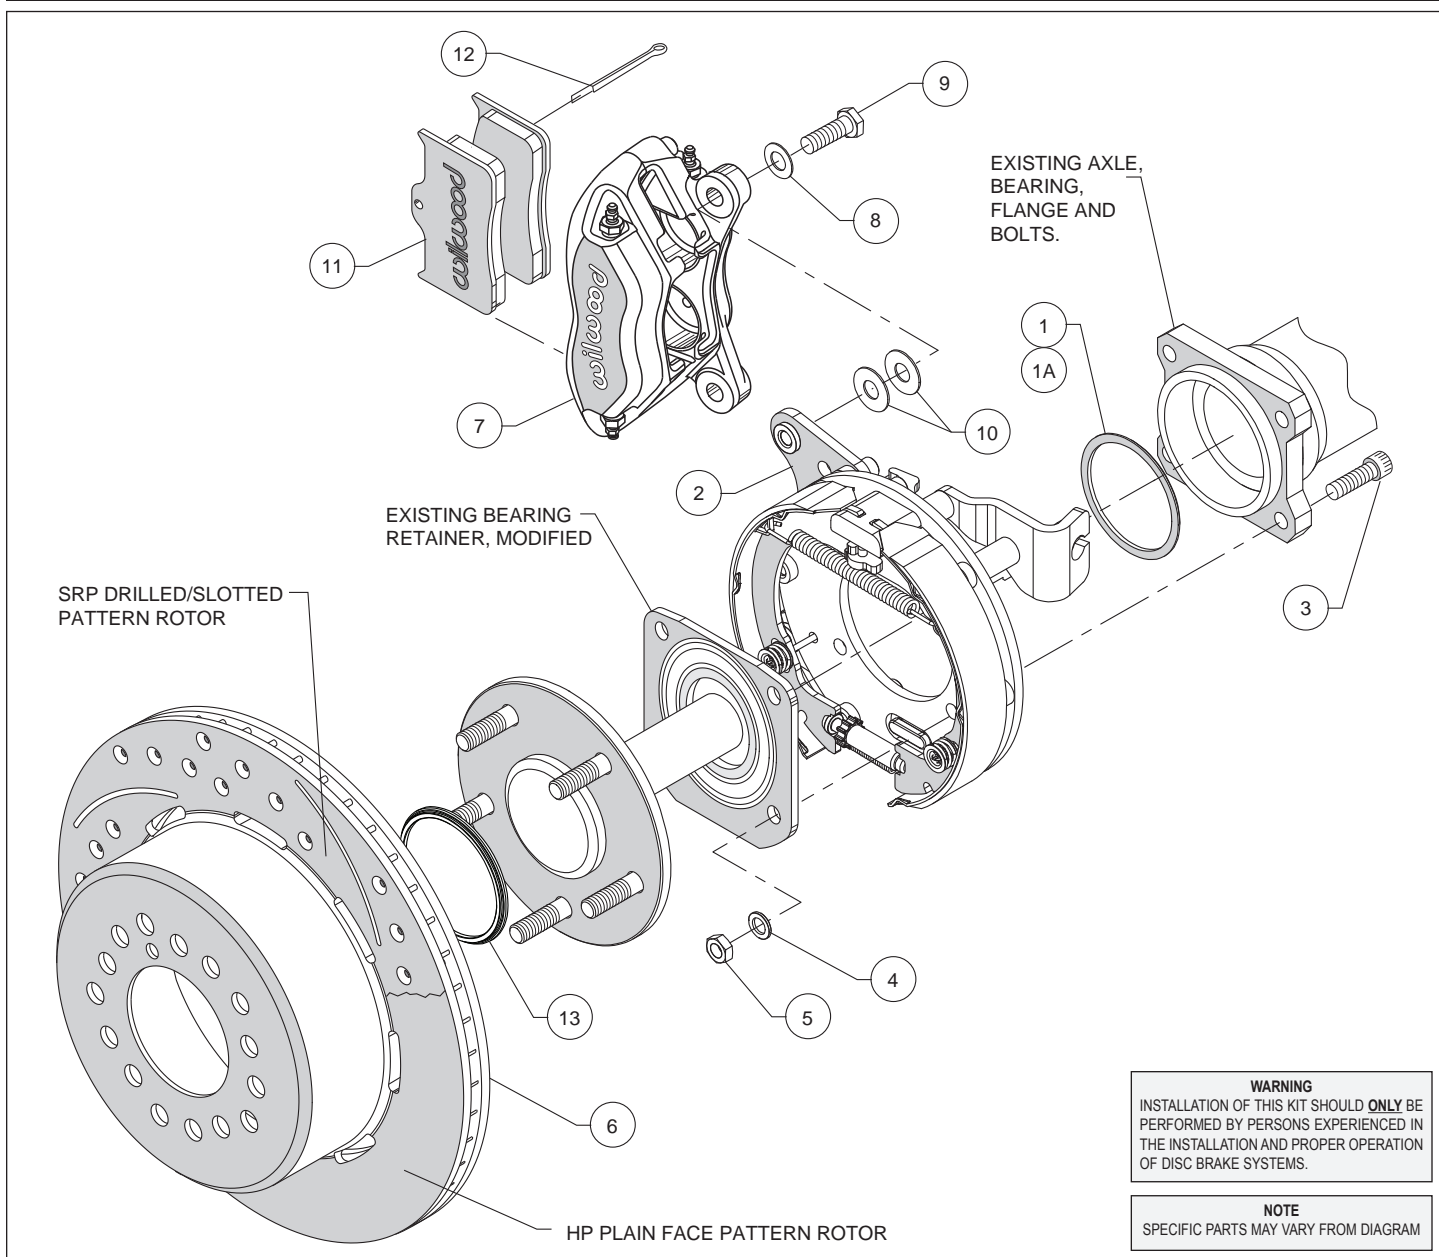
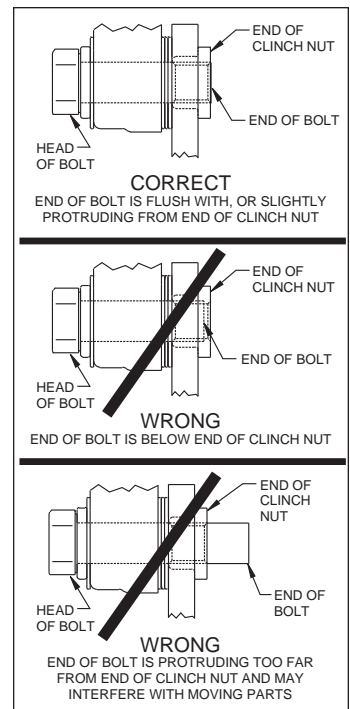

Figure 1. Typical Installation Configuration
Figure 5. Clinch Nut Engagement Diagram
Assembly Instructions (numbers in parenthesis refer to the parts list, and Figure 1 on the preceding pages): **CAUTION:** All mounting bolts must fully engage clinch nuts. Be sure to check that all bolts are either flush or protruding through flanged side of clinch nut after shimming, Figure 5.
- With the bearing retainer in place, slide the caliper mounting bracket assembly (2) onto the axle as shown in Figure 1 and Photo 1. Install axle shim (1 for model year 1955/56) or (1A for 1957) over axle shaft with bearing chamfer facing toward the axle housing, as shown in Photo 2.
- Slide the axle and parking brake assembly into the axle housing ensuring that the backing plate is flush with the axle housing flange and the bearing retainer is flush with the backing plate. Secure OEM bearing retainer using bolts (3), washers (4) and lock nuts (5), as shown in Figure 1. Hex nuts (5) and washers (4) that retain the caliper mounting bracket assembly (2) should be on the wheel side of the bracket, Figure 1. Torque nuts to 40 ft-lbs.
- Slide the rotor registration adapter (13) onto the axle register on the axle flange with the smaller O.D. facing toward the rotor/hat (6), Photo 3. Align the correct hole pattern in the rotor/hat with the stud pattern on the axle flange and slide into place, Figure 1 and Photo 4. **NOTE:** The rotor/hat must fit flush against the axle flange or excessive rotor run out may result. Install three lug nuts (finger tight) to keep the rotor/hat assembly in place while continuing with the installation. **NOTE:** Some OEM and after market axles come with stud sizes larger than 0.50" diameter. Verify stud size and have a qualified machine shop drill the bolt circle of the hat/rotor to the correct stud size, if necessary.
- NOTE:** Please reference the caution statement at the beginning of the assembly instructions. Mount the caliper (7) onto the caliper mounting bracket (2) using bolts (9) and washers (8), as shown in Figure 1. Initially place two .035" thick shims (10) on each bolt between the caliper and the bracket, Photo 5. Temporarily tighten the mounting bolts and view the rotor (6) through the top opening of the caliper. The rotor should be centered in the caliper, Photo 6. If not, adjust by adding or subtracting shims between the bracket and the caliper. Always use the same amount of shims on each of the two mounting bolts. **NOTE:** The end of each bolt must be flush with or slightly protruding from the head of the clinch nut, as shown in Figure 5. If necessary place spare shims between washer (8) and caliper mounting ear to achieve the proper clinch nut engagement. Once the caliper alignment and clinch nut engagement are correct, remove the bolts one at a time, apply red Loctite® 271 to bolt threads, and torque to 40 ft-lb.